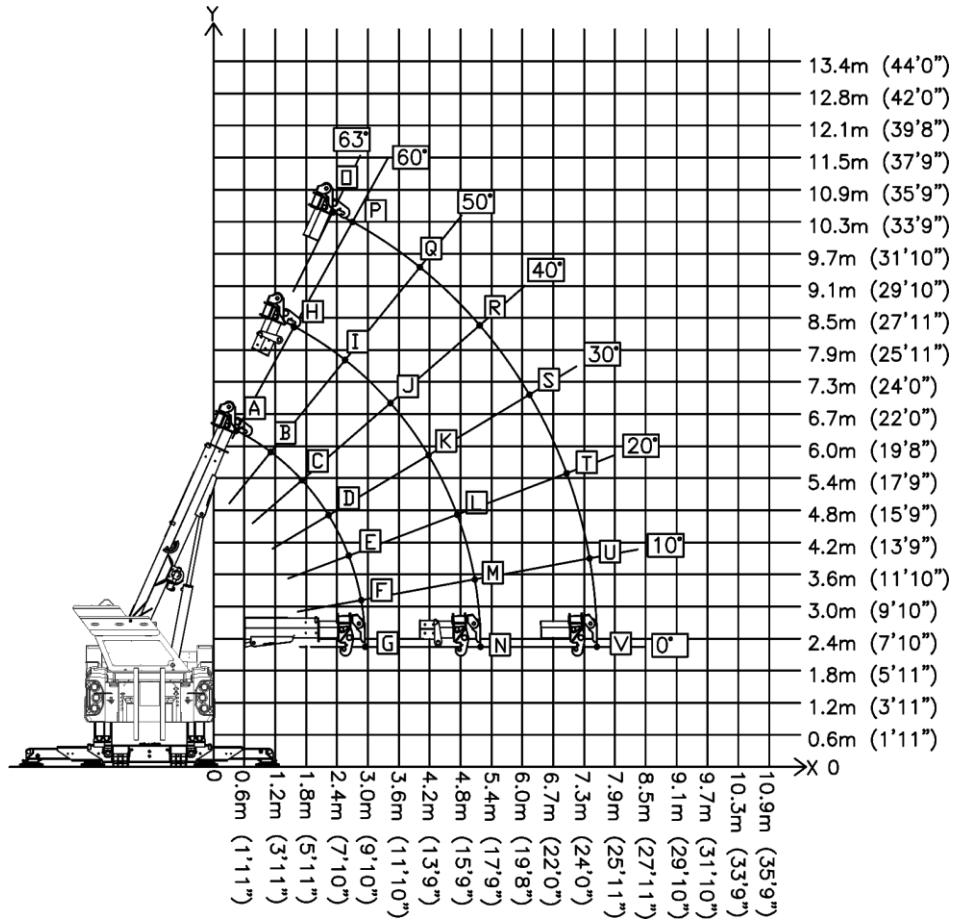

Figure 14 – Lifting Capacity of the 40/50 CSR from the Side
- Figure 14 – Lifting Capacity of the 40/50 CSR from the Side